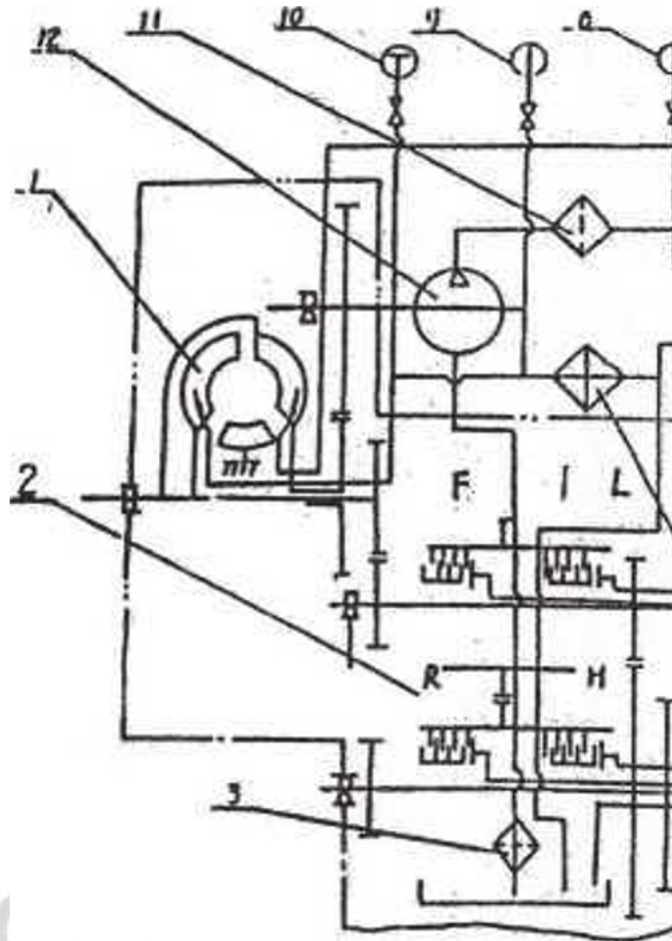

Figure 2-5: Torque Converter-Gear Box Oil Duct
2) Drive hydraulic system (Figure 2-5)